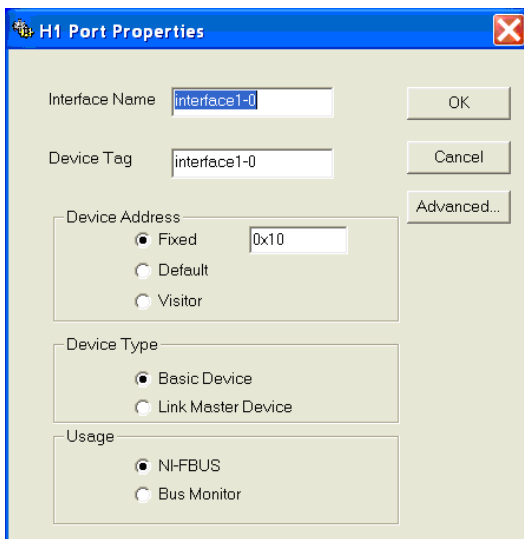

Figure 10-1. Configuring PORT0; Connects Physically to PORT1 on the Cable
- Step 3:** Select Basic Device in the Device Type area and NI-FBUS in the Usage area, as shown in figure 10-1.